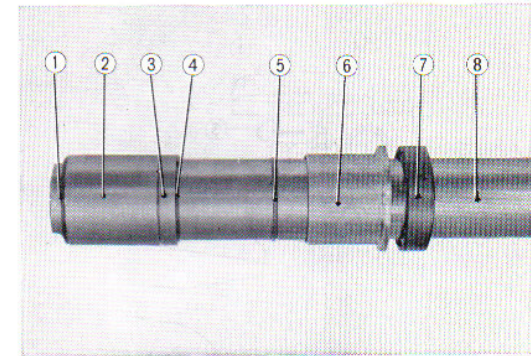

Fig. 4.22 Assembling component parts
2. Assemble the individual components into the front fork pipe assembly. (Fig. 4.22)